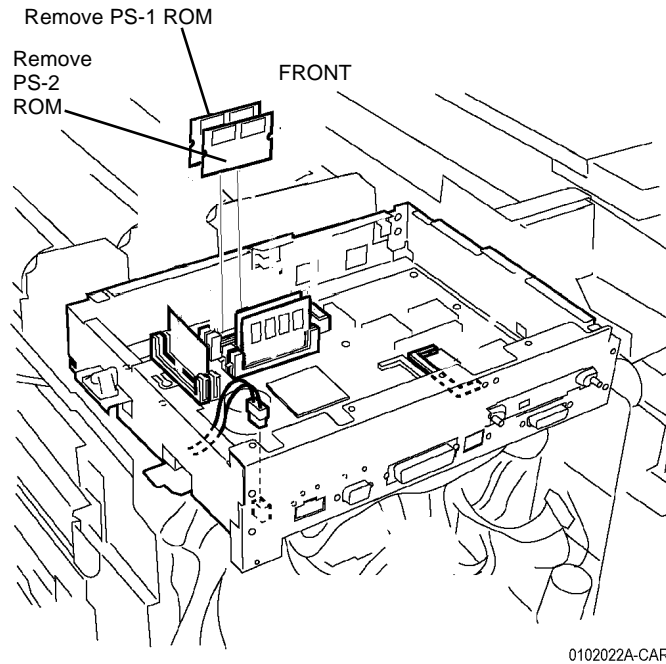

Figure 1 Removing PS-1 ROM and PS-2 ROM
4. Remove the PS-1 ROM and PS-2 ROM (if present) (Figure 1).
PS-1 ROM must be installed in R1 slot (front slot) Figure 1.